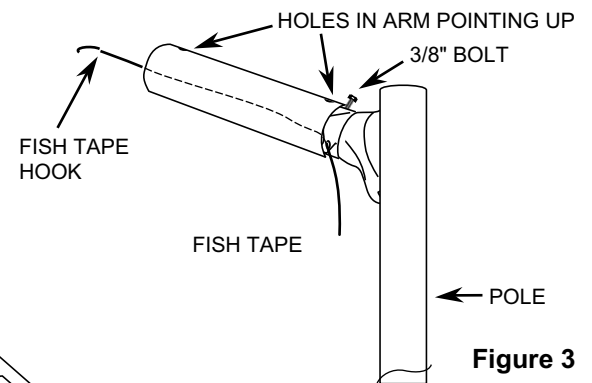

Figure 3
**Note: Do not run fish tape through boot casting mounting holes.** Hook fish tape to arm end at approximately 2 o'clock position looking into arm end (See Fig.3).